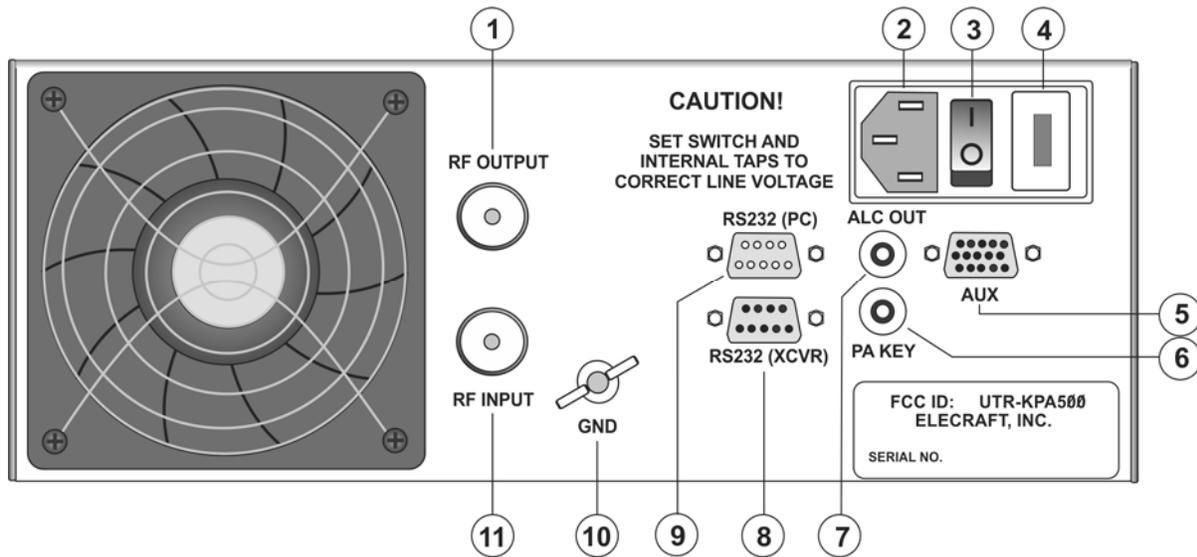

Figure 1. KPA 500 Rear Panel
**⚠ IMPORTANT: Always turn the amplifier off using the rear panel switch ({3} in Figure 1) before attaching or removing cables.**
6. **Optional:** RS232 (PC) {9} connects the KPA500 to your personal computer with a standard 9-pin serial cable. Required for updating the KPA500 firmware.
1. Ensure a suitable 50 ohm load is attached to the RF OUTPUT connector on the rear panel (Figure 1, {1}). A dummy load is strongly recommended for initial tests.
2. Enable the power supply by pressing the rear panel rocker switch (Figure 1, {3}) to the On (I) position.